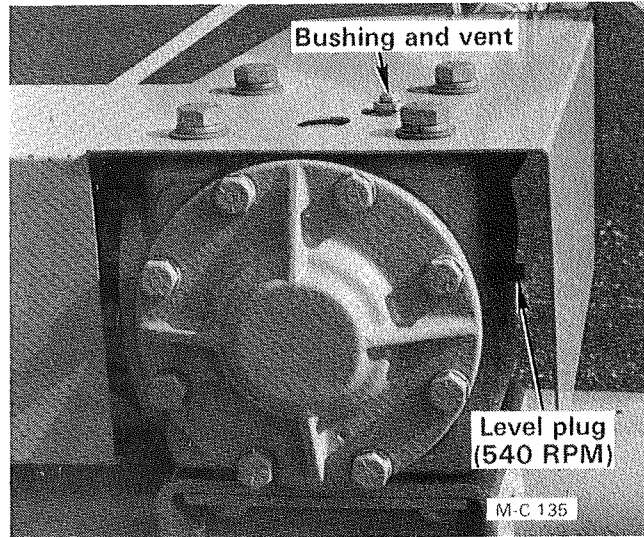

Figure 11
1. Remove the oil level plug on the right side (540 RPM) or the rear (1000 RPM) of the gear box, see Figure 11. The oil level should be even with the bottom of the level plug. If the oil level is low, remove the bushing, with vent, on top of the gear box and add Mobilfluid 424 multipurpose transmission lubricant or equivalent until it just runs out of the level plug. Install the level plug. Check to be sure the vent is not plugged with paint or dirt. Install the bushing with vent.
2. There are eight (8) lubrication fittings on the mower. For fitting locations refer to "Lubrication" page 14. Lubricate with a hand grease gun. Do not over lubricate. Too much grease may damage the bearing seals.